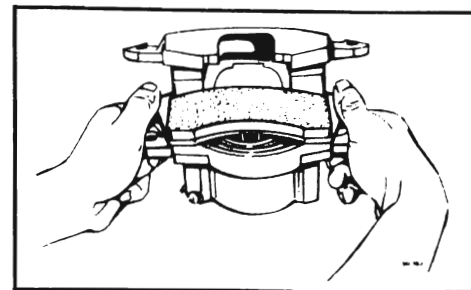

Figure 50-39--Installing Inboard Shoe
4. Position the inboard shoe and lining assembly in the caliper so that the bottom edge of the metal shoe contacts the piston and the two spring ends. Adjust the spring, if necessary, so that the spring ends contact the shoe centrally. The shoe will be at an angle, with the top edge away from the piston. See Figure 50-39. Press down on the ears at the top of the shoe until the shoe lays down, flat against the piston. When properly seated, the ends of the spring will not extend more than 0.100 inch beyond the metal part of the shoe.